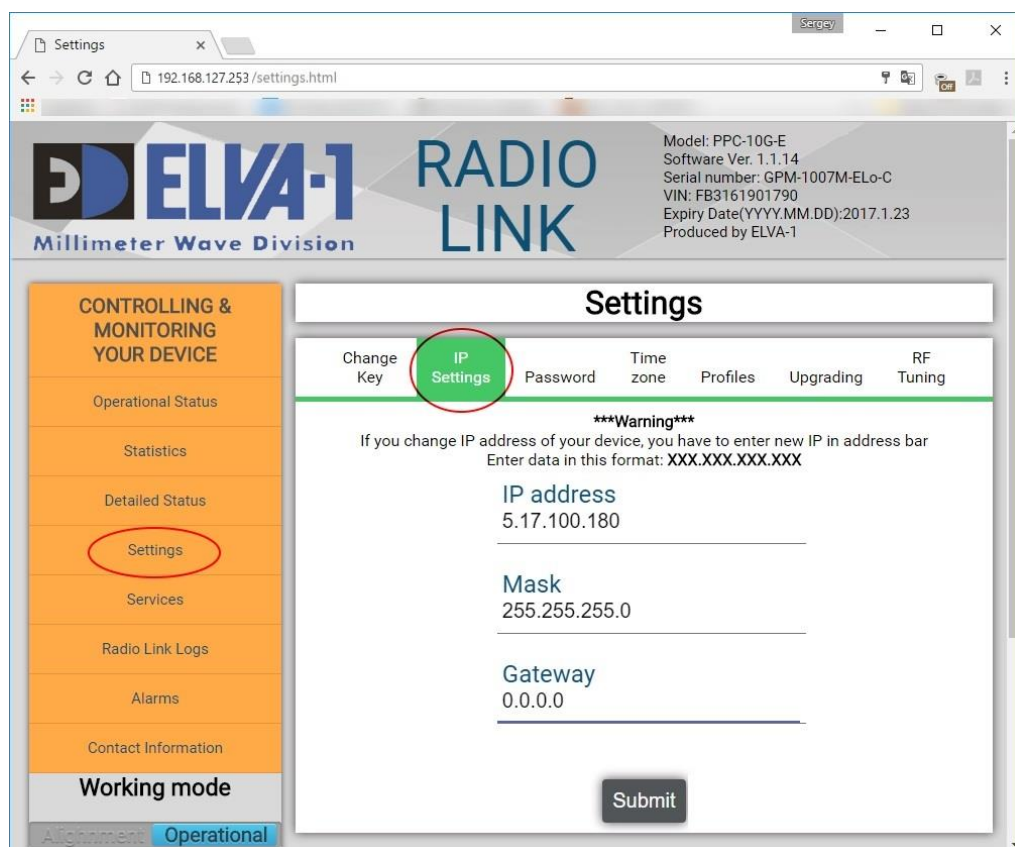

Figure 16: IP Settings tab
- Choose **Settings** on left menu and **IP Settings** tab at top (Fig.16). Enter the IP address of your choice,